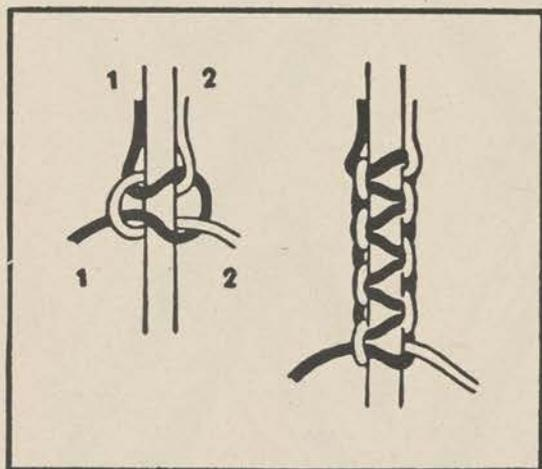

Figure 159.
a. Most knotting is done with the square knot, which is tied around a core in the manner shown (fig. 159). The same illustration demonstrates the appearance of a row of these knots tied continuously over the same core. In practice, however, knotting is generally done with eight or more strands in order